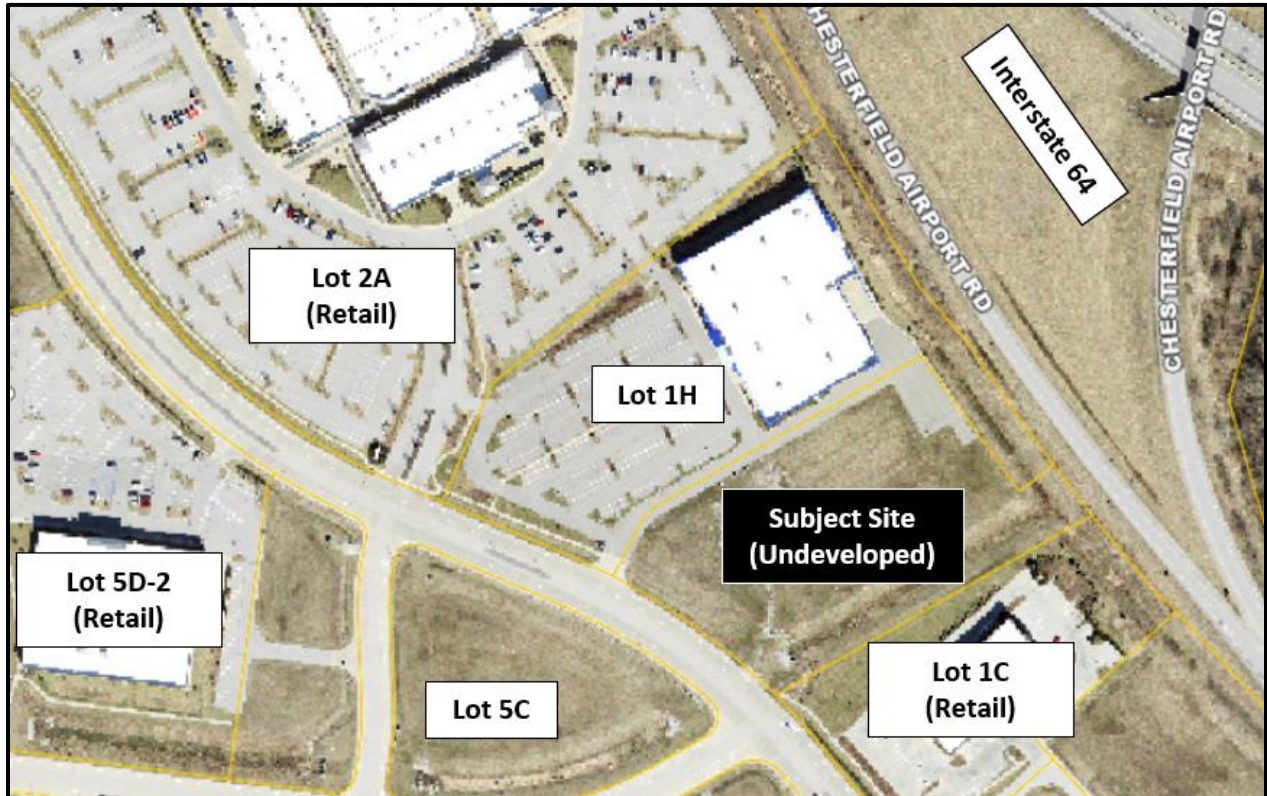

Figure 6: Site Relationships
The subject site has vehicular cross access between both Lot 1G and Lot 1H. This proposal would fence off most of the proposed parking area on 1G for inventory vehicle parking, with a small carwash—incidental to inventory vehicle maintenance—located on the north side of the lot. Two (2) gates for vehicular access will be constructed: one located at the southwest corner of the site, and another located to the north. Bollard fencing will be utilized to enclose the inventory parking area with approximately 220 linear feet of it running across pavement to the south and north of the carwash. This bollard fencing is shown as pink hatching in Figure 6 below. A new pedestrian sidewalk will be constructed along Outlet Boulevard connecting to the existing sidewalks on both Lots 1C (southeast) and 1H (northwest).